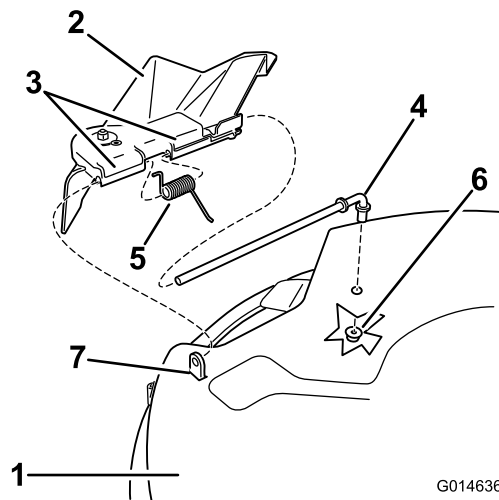

Figure 57
- Locate items shown in Figure 57.
- Remove the nut (3/8 inch) from the rod under the mower (Figure 57).
- Slide the rod out of the short stand-off, spring, and grass deflector (Figure 57). Remove the damaged or worn grass deflector.
- Replace the grass deflector (Figure 57).
6. Place the spring on the rod, with end wires down, and between the grass deflector brackets. Slide rod through second grass deflector bracket (Figure 57).
7. Insert rod at front of grass deflector into short stand-off on deck. Secure rear end of rod into the mower with a nut (3/8 inch) (Figure 57).